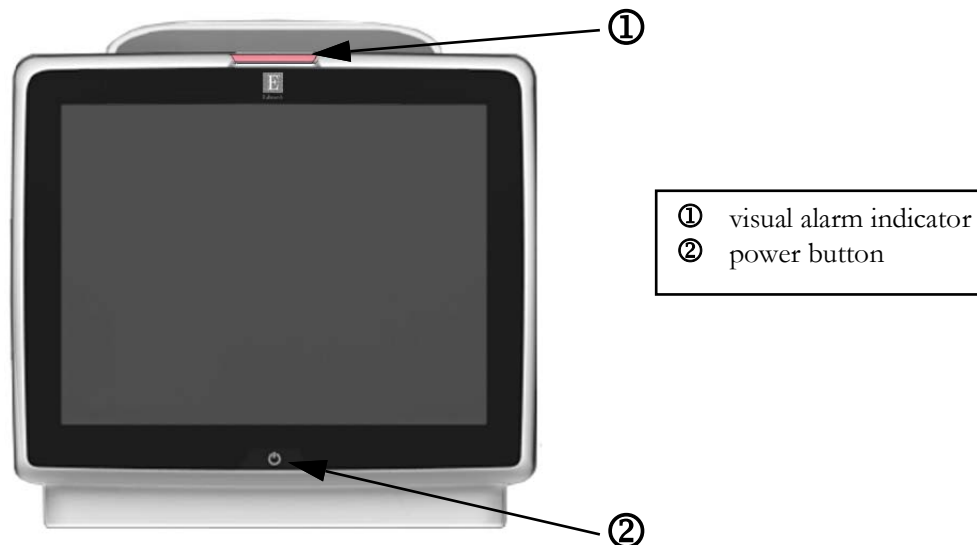

Figure 3-1 HemoSphere advanced monitor front view
To power the monitor off, touch the power button. See ② in Figure 3-1 on page 71. The following options will be displayed: